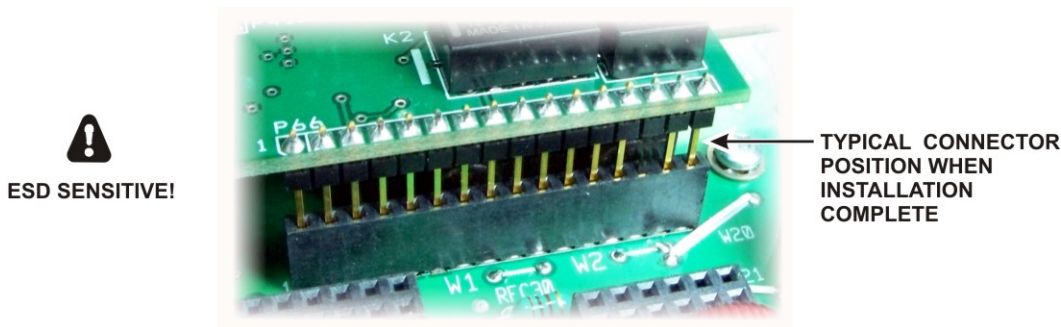

Figure 11. Typical Connector Fit.
□ Adjust the depth the KXV3 board connector mates J66 on the RF board so the KXV3 connector panel is parallel with the back panel. The pins on the KXV3 board connector do not go all the way into J66 as shown in Figure 11.